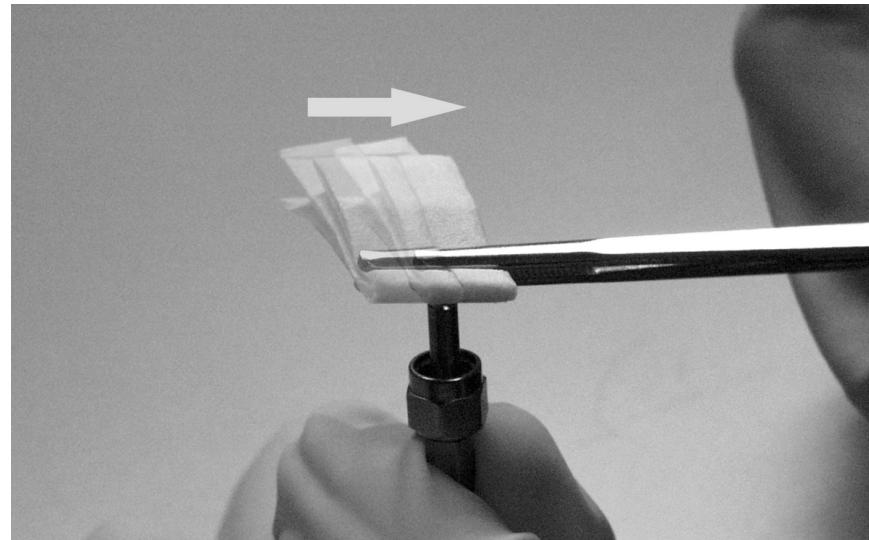

Figure 6-16. Placement and Movement of the Folded Tissue Against the Fiber Optic Surface
6. Holding the fiber vertically so the lens surface points to the ceiling, carefully place the base of the wet side of the folded tissue against the fiber optic surface, taking care not to touch the fiber optic with the hemostat. See Figure 6-16.